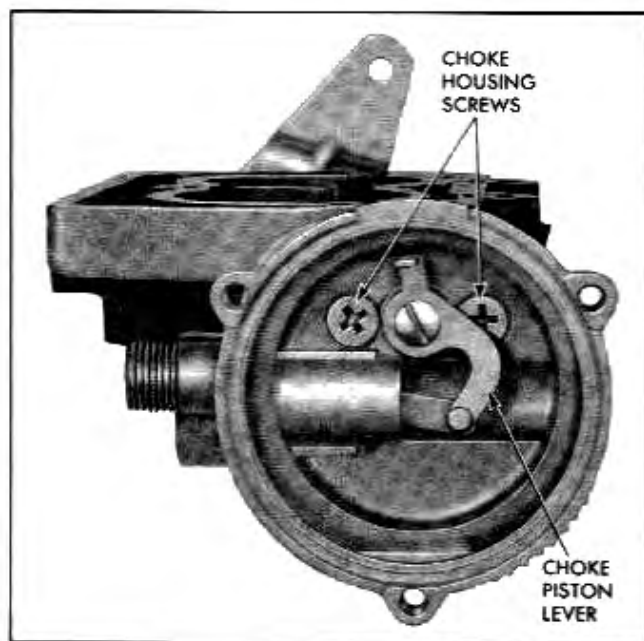

Fig. 6B-16 Choke Housing Screws
5. Remove choke piston lever attaching screw (Fig. 6B-16).